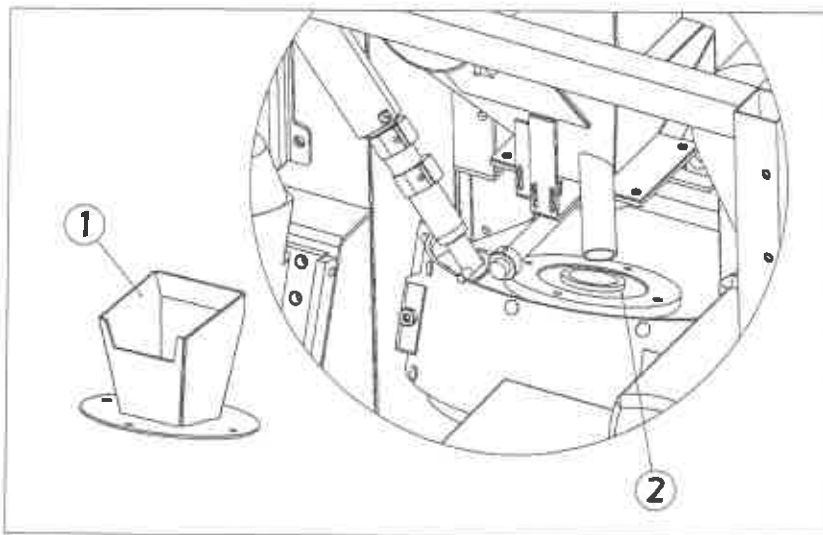

Fig. 7.1
The abrasive in the abrasive storage hopper can be emptied in a container by removing the grit funnel (see fig. 7.1) and opening the shot valve by pushing the "Shot control +" button on the remote control box (power is required - see Chapter 5.2).
- ☐ Remove the bolts securing the grit funnel (fig. 7.1) and remove the grit funnel from the machine.